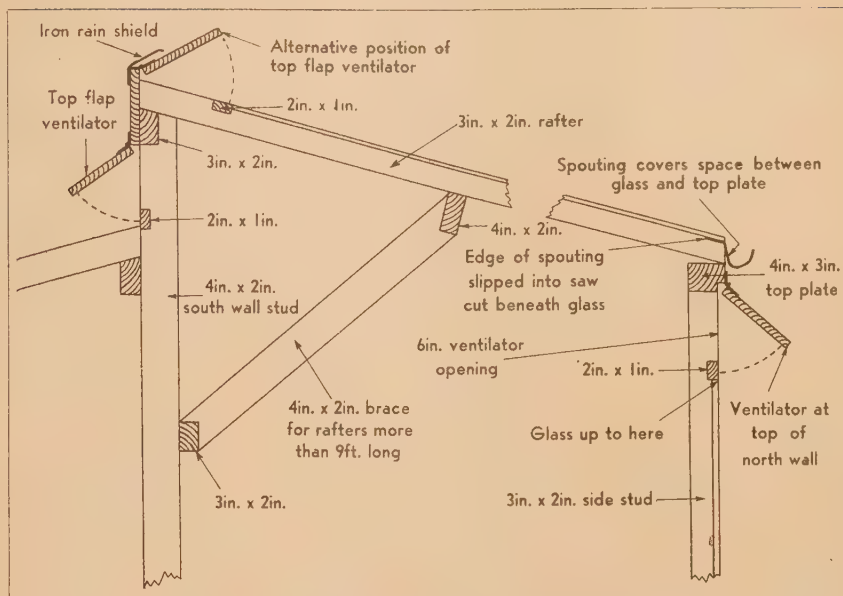

Fig. 1—A cross-section showing details of construction of the glasshouse. A potting shed can be built against the north wall.
5. If rafters are much more than 9ft. long they should be supported by a 4in. x 2in. bearer with angle braces footed about 6ft. high along the south wall and about 3ft. apart, as shown in Fig. 1.
Fig. 1 shows suitable types of side and ridge ventilators, which should run the full length of the house. The flaps may be in one piece or in several shorter sections if that is considered more convenient. Ventilators should be weatherproof and capable of adjustment to several positions according to the demands of weather and season. Alternative positions are shown for the upper ventilators. If the roof of the potting shed is to be lower than the ridge of the glasshouse, the ventilator should be at the top of the dividing wall above the shed roof; should the glasshouse be built against a higher building or a wall in which a ventilator cannot be provided, the alternative position of the ventilator may be used. The lower position has several disadvantages, including less effective ventilation, greater difficulty in weatherproofing the flaps, and more risk of accidental breaking of the glass roof while the flaps are being opened or closed.
Fig. 1 shows that the 4in. x 3in. plate at the top of the lower wall is specially cut to provide a bearing surface for the ends of the rafters, which are flush with its outer edge. The top plate also has a 1in. rebate in its lower outside edge to take the hinged side of the ventilator flap. The outer surfaces of the 3in. x 2in. studs are flush with the rebated lower edge of the top plate. The spouting is of a special type with its inner edge bent to slip into saw cuts in the ends of the rafters just beneath the glass. The spouting covers the space between the glass roof and the top plate and needs